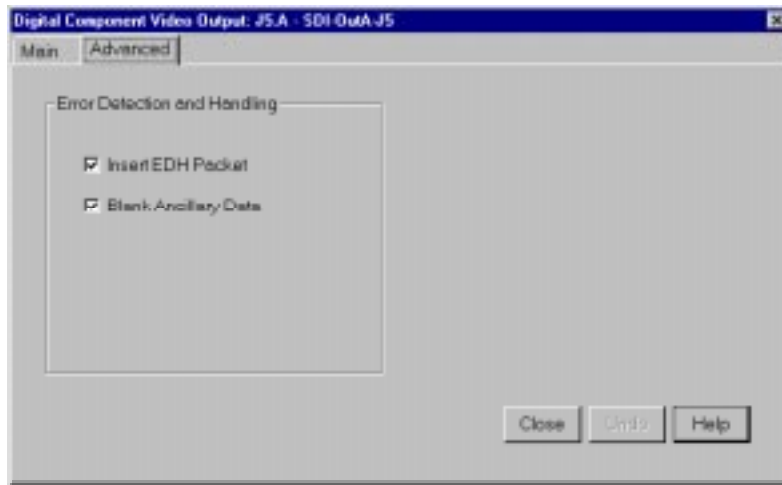

Figure 26. Serial Digital Video Output dialog box, Advanced tab
1. Click the **Advanced** tab to view the Serial Digital Component Video Output Advanced settings (see Figure 26).